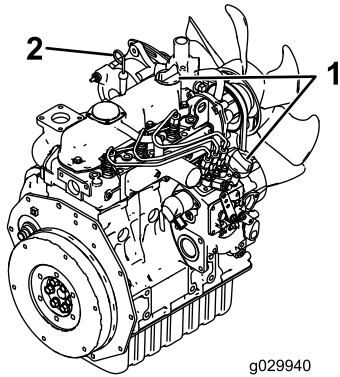

Figure 25
4. Clean around the oil dipstick and oil-filler cap (Figure 25).